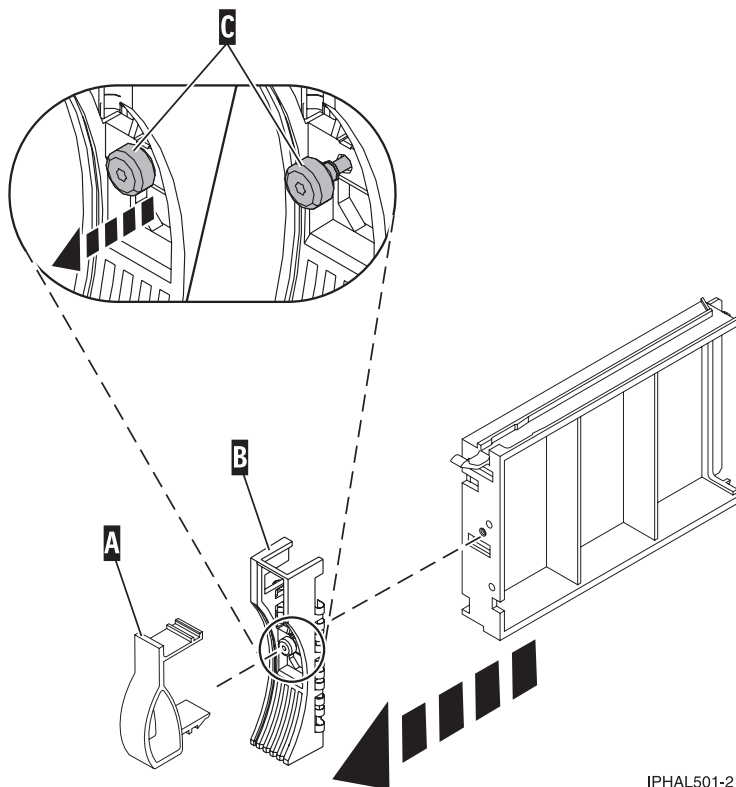

Figure 49. Removing a disk drive bezel
1. From the removed disk drive or disk drive filler, gently pull off the disk drive bezel latch (A) from the front of the filler, as shown in Figure 49.
2. Loosen and then pull out on the thumbscrew (C) to release the bezel (B) from the front edge of the filler.